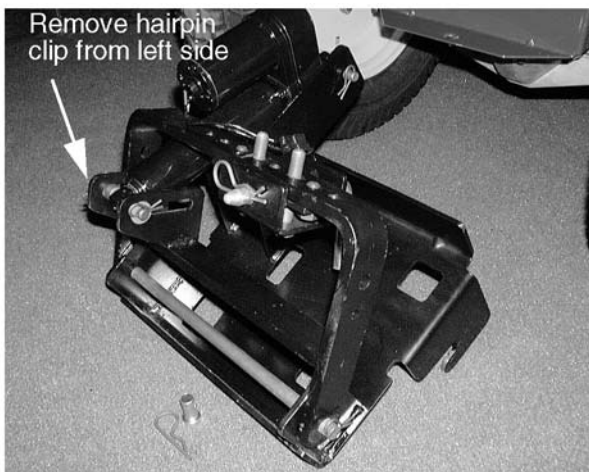

Figure 8-64.
5. Remove the hairpin clip from the left side of the lower cylinder support rod. See Figure 8-64.